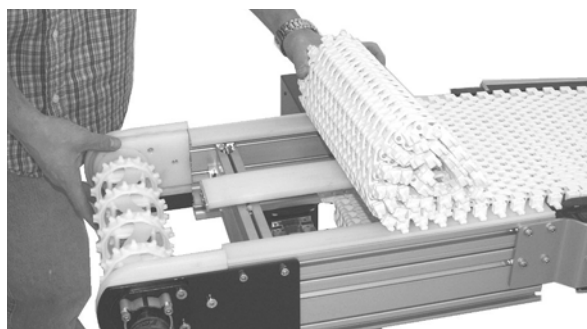

Figure 11
1. Position the belt on the conveyor frame (**Figure 11**).